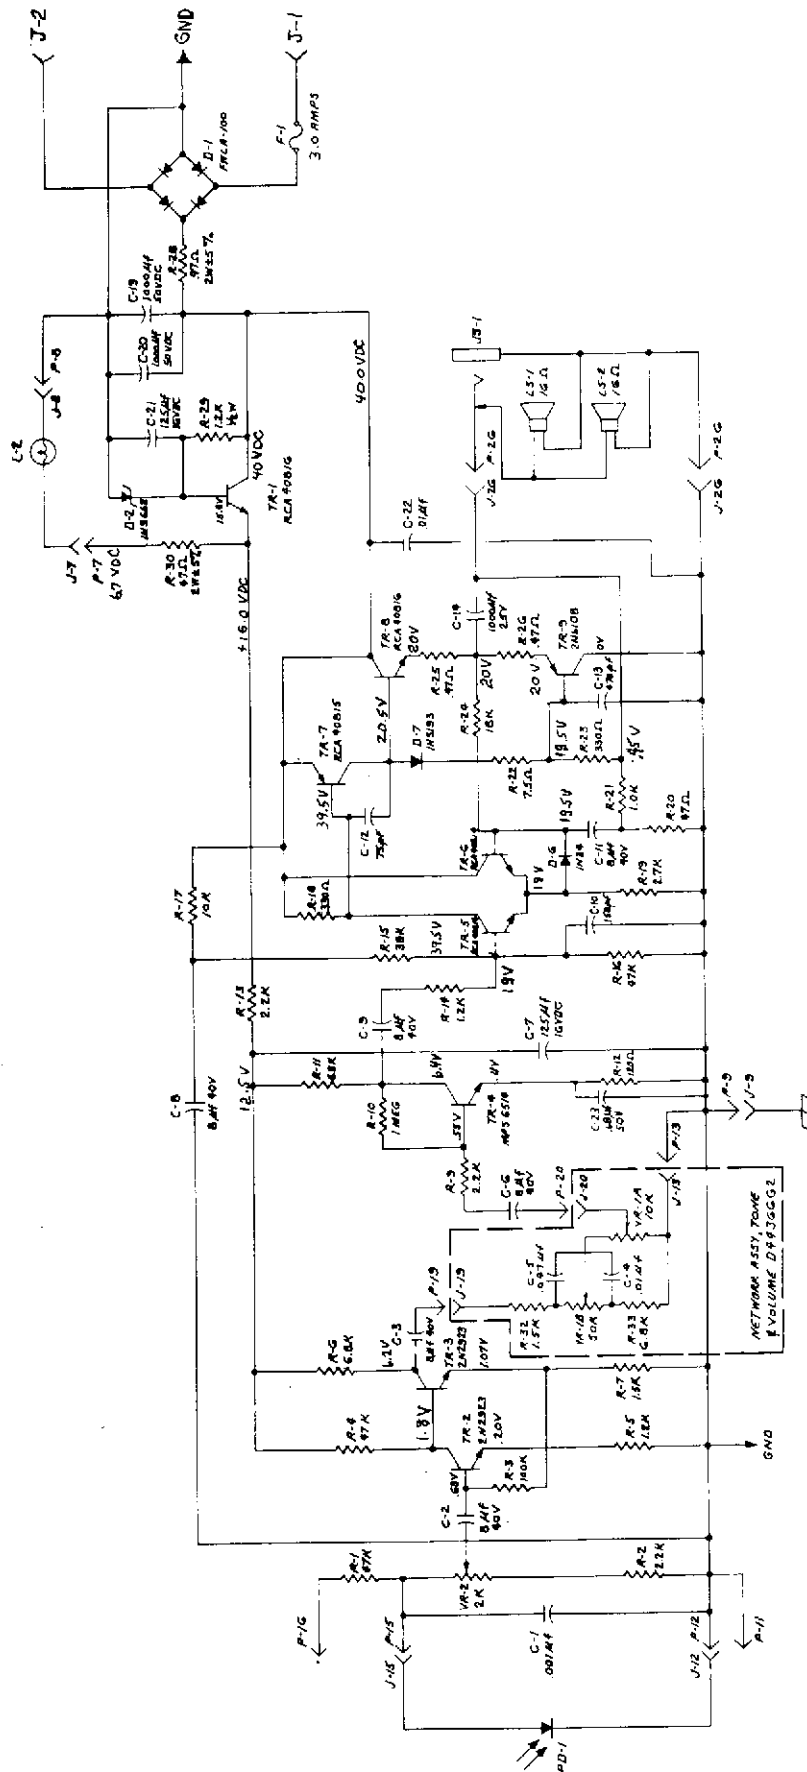

Figure 5-4. PROJECTOR SCHEMATIC DIAGRAM, (Stage II, (15 Watt)
- #### 2. 15 Watt Amplifier (43477 Amplifier)(Figure 5-4)
2. 15 Watt Amplifier (43477 Amplifier) (Figure 5-4)